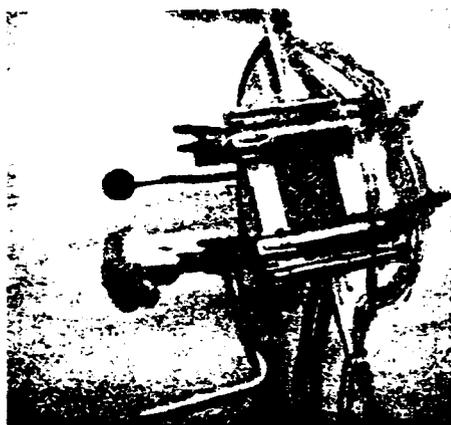

FIG. 33 WIRING SECOND MANDREL SET (PAR. 4.326)
4.326 Refer to Par. 4.31 and 4.32 for proper selection and insertion of mandrels into the R4861 Tool. Check for extended combs. Install two appropriate mandrels in the tool, with notches to the left as before. Place the remaining wire bundle into position with a 5 inch space under the bundle loop. See Fig. 33.